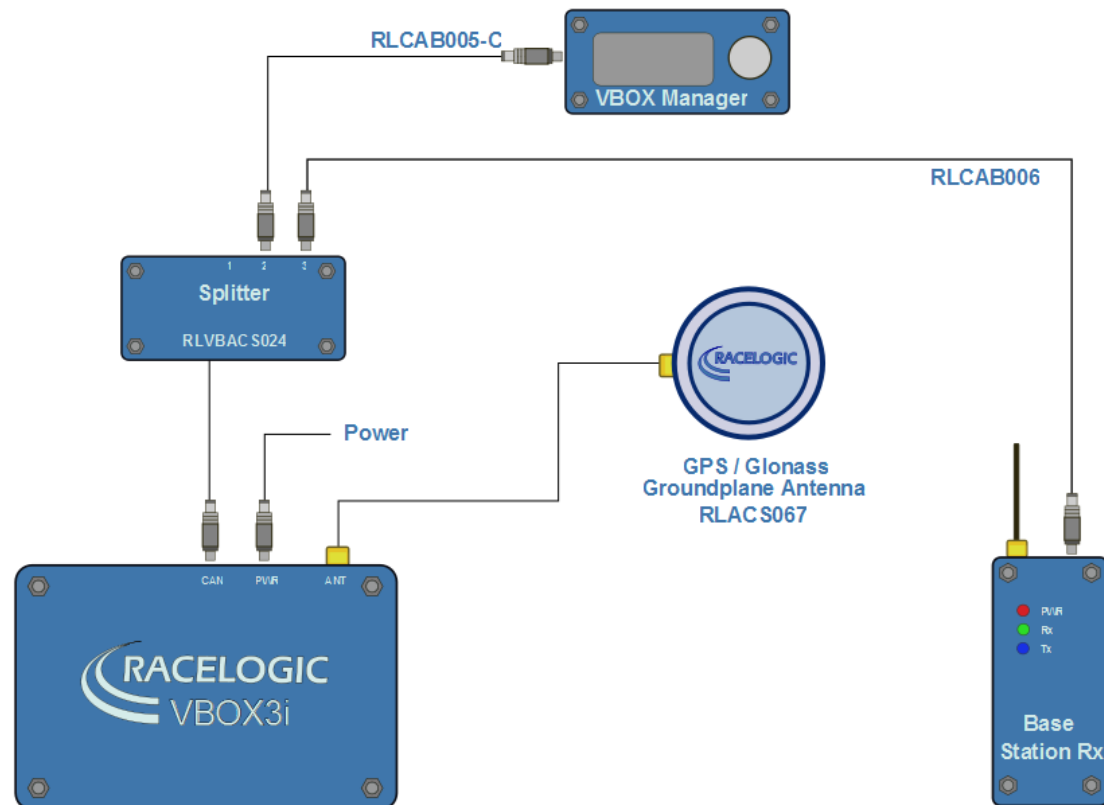

Figure 21: Lane Survey Hardware configuration
1. Connect the VBOX equipment as shown in Figure 21 with the GPS antenna mounted on top of a survey pole (RLACS168)
- 1) Connect the system as described in Figure 21